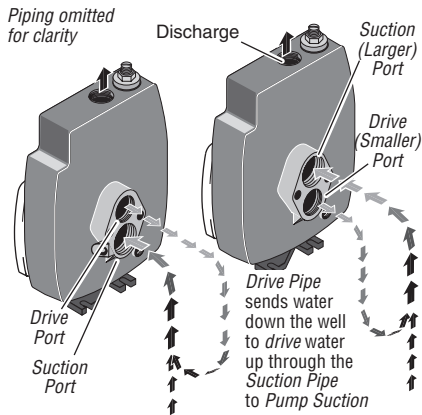

Figure 2 - Drive and Suction Functions
3. If your old pump has the suction pipe (the larger port – see Figure 2) below the drive port, you will need to install flexible pipe between the well head and the pump so that the connection will be correct.